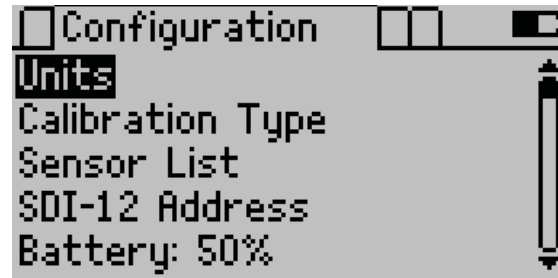

Figure 9 Configuration tab
1. Navigate to the Configuration tab (Figure 9).